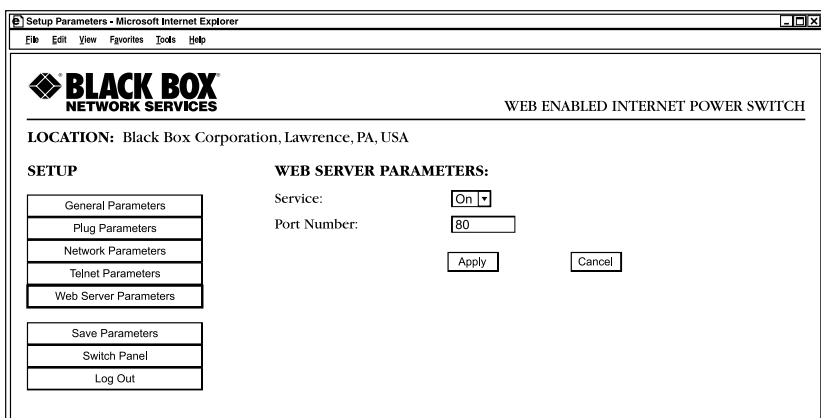

Figure 5-12. Web Server Parameters menu (Web browser interface).
- Web browser interface: Click on the **Setup** button to access the configuration menus, then click on the **Web Server Parameters** button. The Web Server Parameters menu appears (see Figure 5-12).